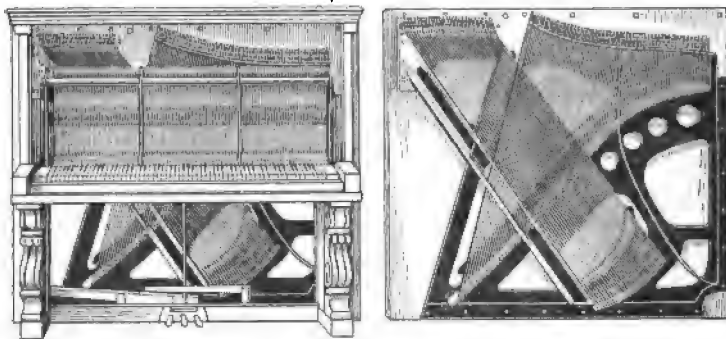

FIG. 39. — Piano.
*The piano.* The essential sound-producing portion of the piano consists of three parts: the strings, whose vibrations produce the sound, the keys for setting the strings in vibration, and the sounding board. (See figure 39.) The purpose of the sounding board is to increase the volume of the sound. The volume of sound given out by the wires alone would be too small to make a satisfactory instrument.